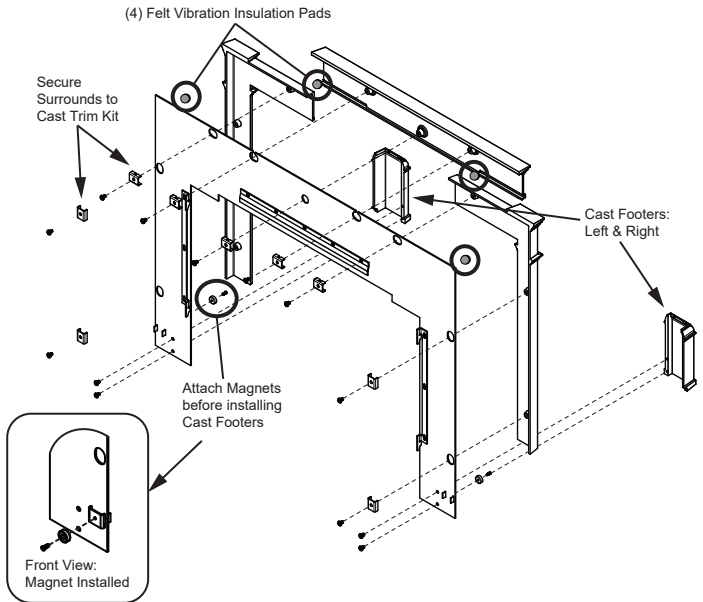

Figure 22.1
3. Place the peel and stick round felt vibration insulation pads on the front side in each corner of the top metal piece and on the back side in each corner of the top cast piece (**Figure 22.1**).